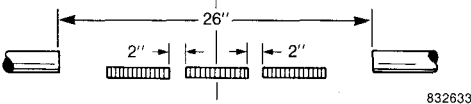

Fig. 32—Completed three bank splice.
- Splice connector and repeat procedure until three bank splice is completed. See Figure 32.